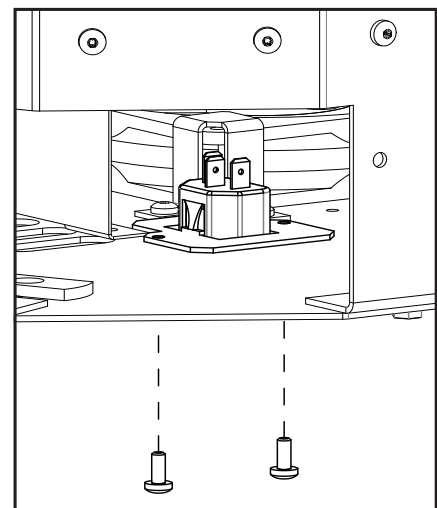

Figure 87: Electrical Plug Connection
5. Attach the adapter plate through the firebox reusing the two (2) T20 screws (see Figure 87).
The electrical and gas line conduit can run straight up the pole from the floor below. Alternatively you could run them through the channel at the rear of the pedestal base (see Figure 87).